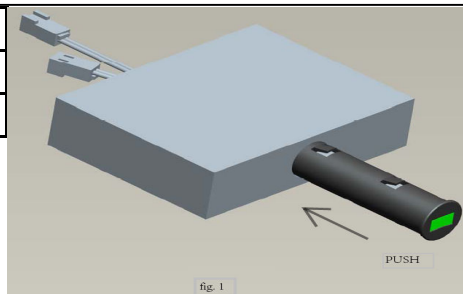

fig. 1
2. Install the IR sensor switch in the installation hole with a diameter of 14.5mm (.57 inches) and secure using the included plastic insertion adapter. Ensure the input cable passes through back of the installation hole. (see fig.1)